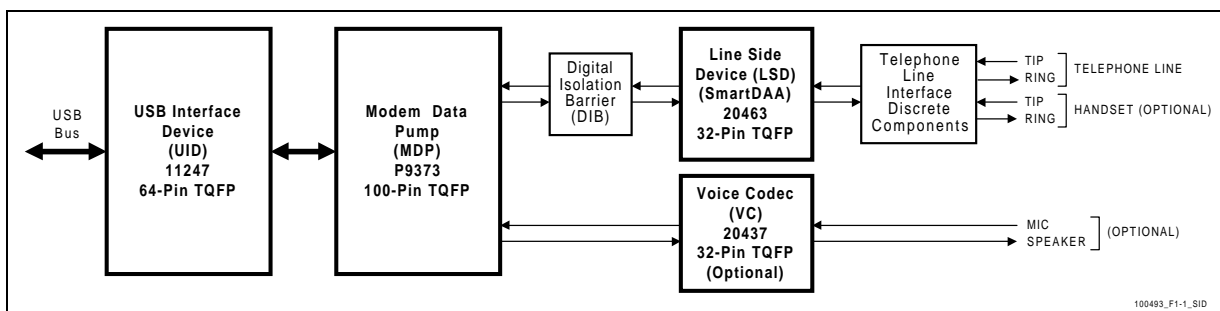
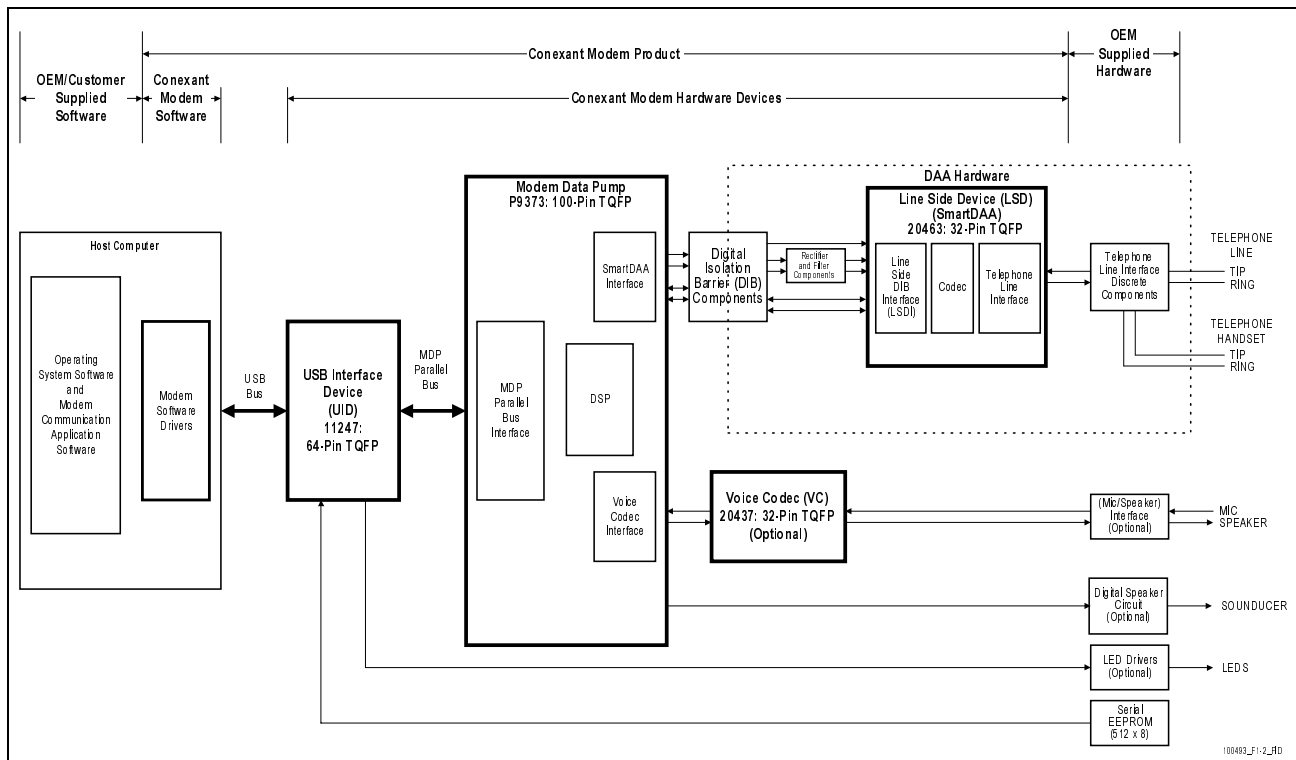

Figure 1. SmartHCF-USB Modem Simplified Interface Diagram
Figure 2. SmartHCF-USB Modem Major Interfaces
The SmartHCF-USB device set, consisting of a USB Interface Device (UID) in a 64-pin TQFP, a Modem Data Pump (MDP) in a 100-pin TQFP, and a Line Side Device (LSD) (SmartDAA device) in a 32-pin TQFP, supports data/fax/TAM operation with hardware-based digital signal processing and DAA/telephone line interface functions (Figure 1). The optional Voice Codec (VC), in a 32-pin TQFP, supports full-duplex speakerphone (FDSP) operation with interfaces to a microphone and speaker (S model). Figure 2 identifies the major hardware signal interfaces.